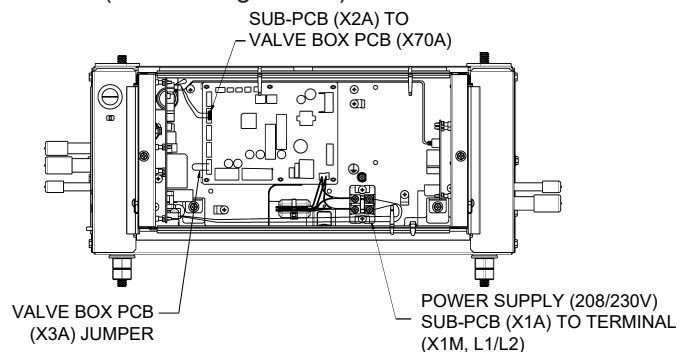

**FIGURE N.1**
2. Locate the mating connector X70A on the Valve Box PCB (Refer to Figure N.1)
1. Locate the Valve Box PCB connector header X3A (Refer to Figure N.1)
2. Locate the power terminal strip X1M on the Valve Box Control Panel. (Refer to Figure N.1)
3. Route the 208/230V Power Supply Harness from the Sub-PCB to the Valve Box Control Panel and connect the ring terminal ends to the terminal block X1M (L1/L2) (Refer to Figure N.1)
**ENSURE ALL CONNECTIONS ARE SECURE (REFER TO FIGURES N.1, N.3, AND N.4)**